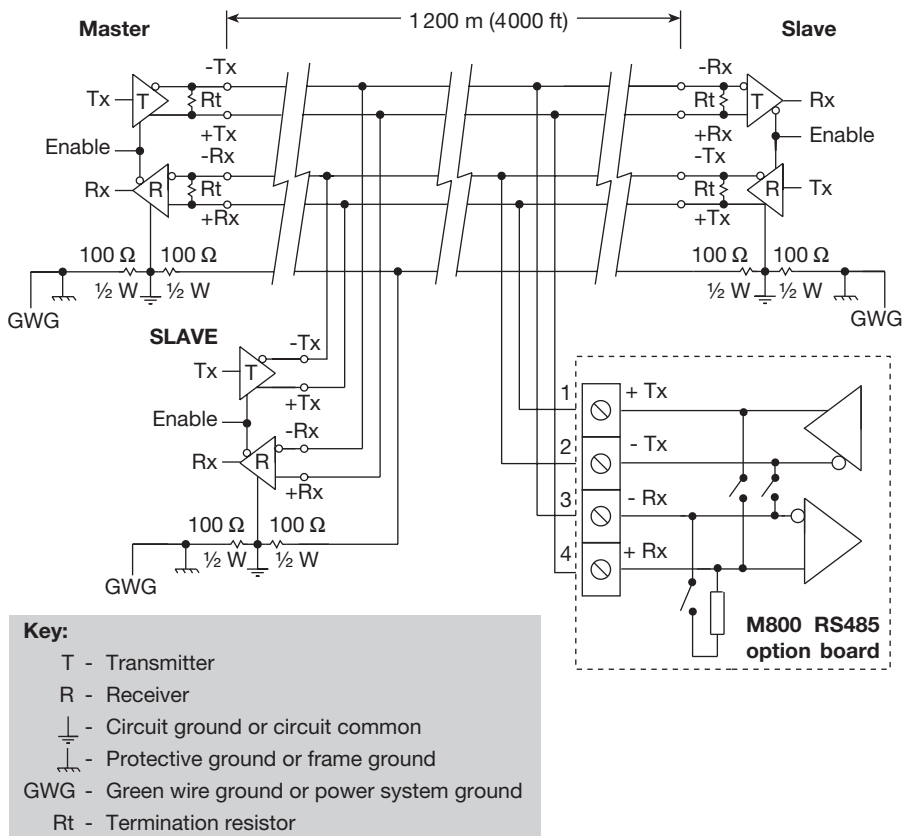

Fig. 27 Typical RS485 four-wire multi-drop network
- See Figure 27, for a typical installation.